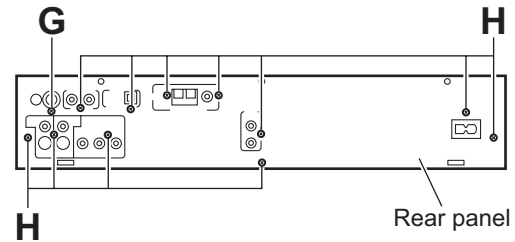

Fig.8
3.1.4 Removing the rear panel (See Fig. 8)